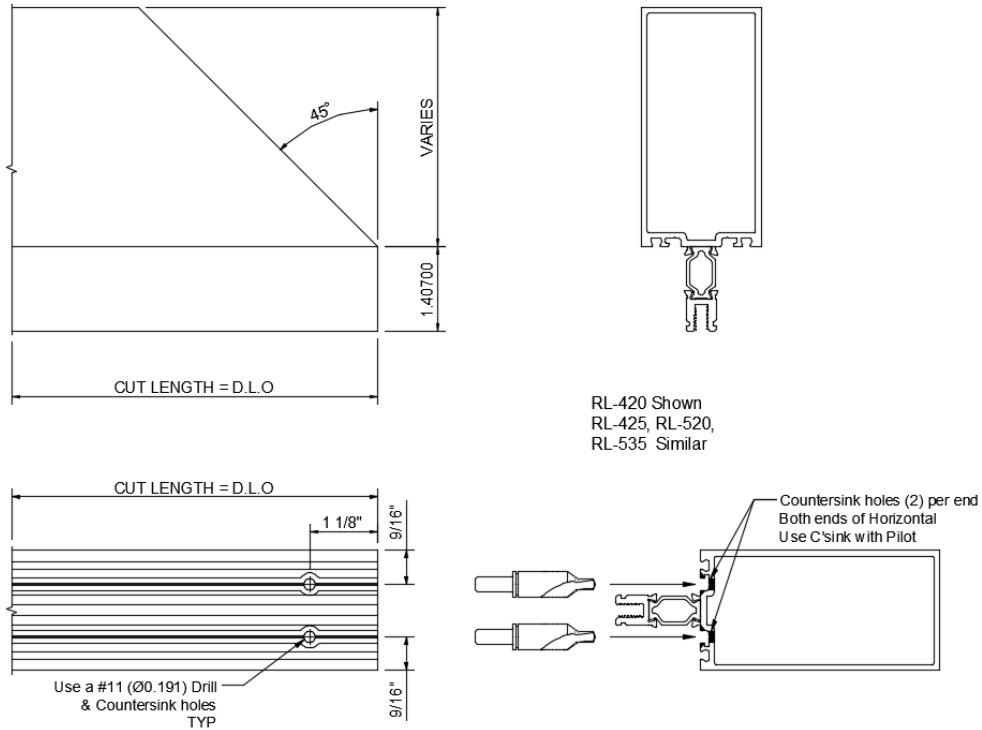
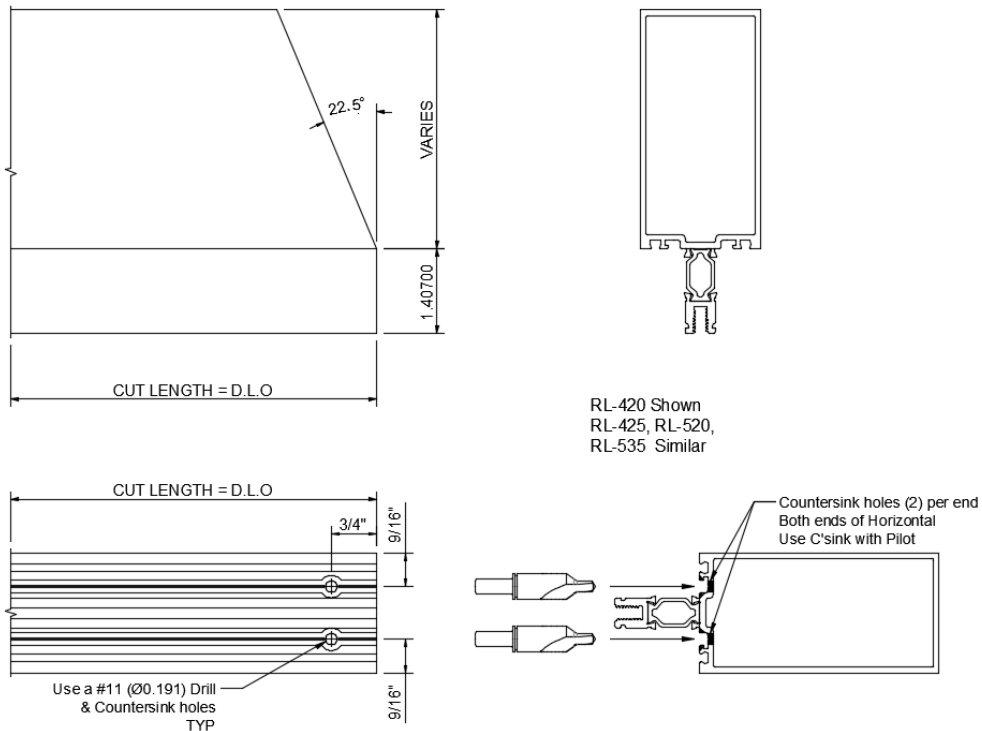
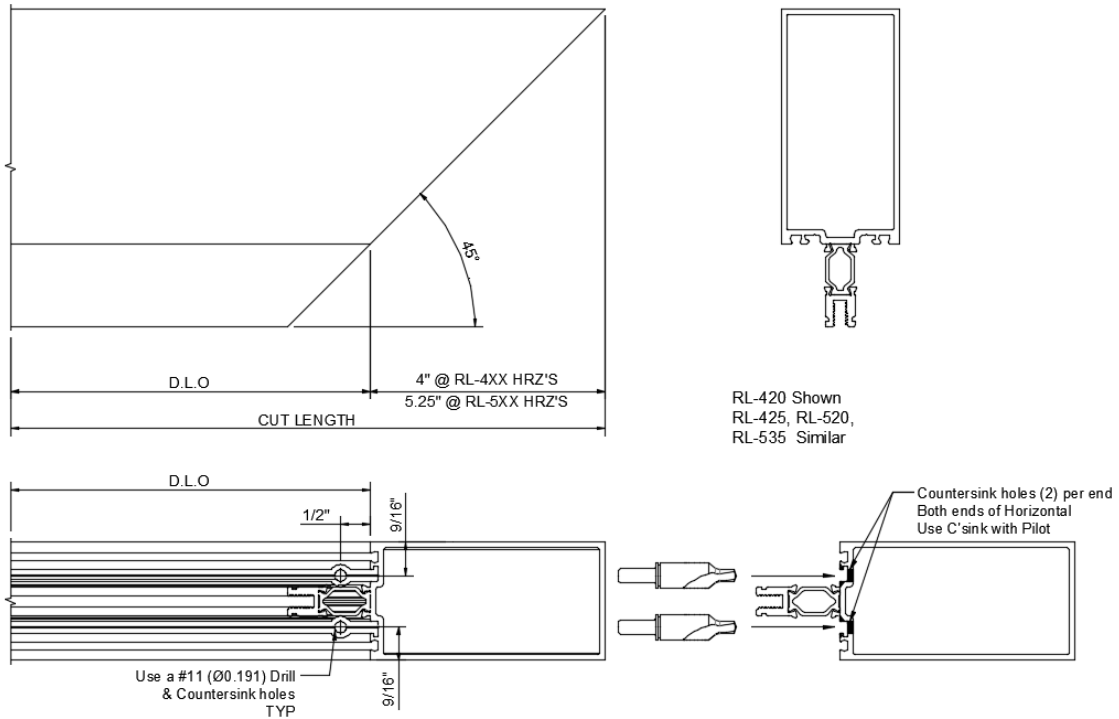

Figure 16: Horizontal at 90° Outside Corner
Figure 17: Horizontal at 135° Outside Corner
Figure 18: Horizontal at 90° Inside Corner
- 7.3 Fabricate horizontals as required at arrow corners per *Figure 16*, *Figure 17*, and *Figure 18*.